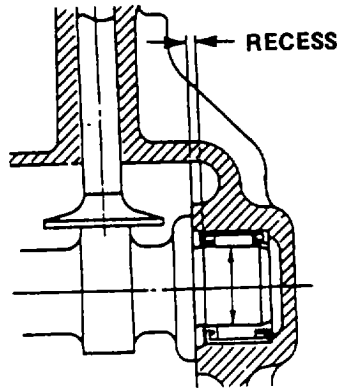

Figure 6-11. Recess of Needle Bearing
- c. Refer to Figure 6-11. Check the clearance at the thrust of the camshaft (cylinder block side). The camshaft bearing has been press-fitted into the cylinder block. Maintain the recess between the press-fitted bearing face and the thrust surface of cylinder block at 0.059-0.079 inch (1.5-2.0 mm).